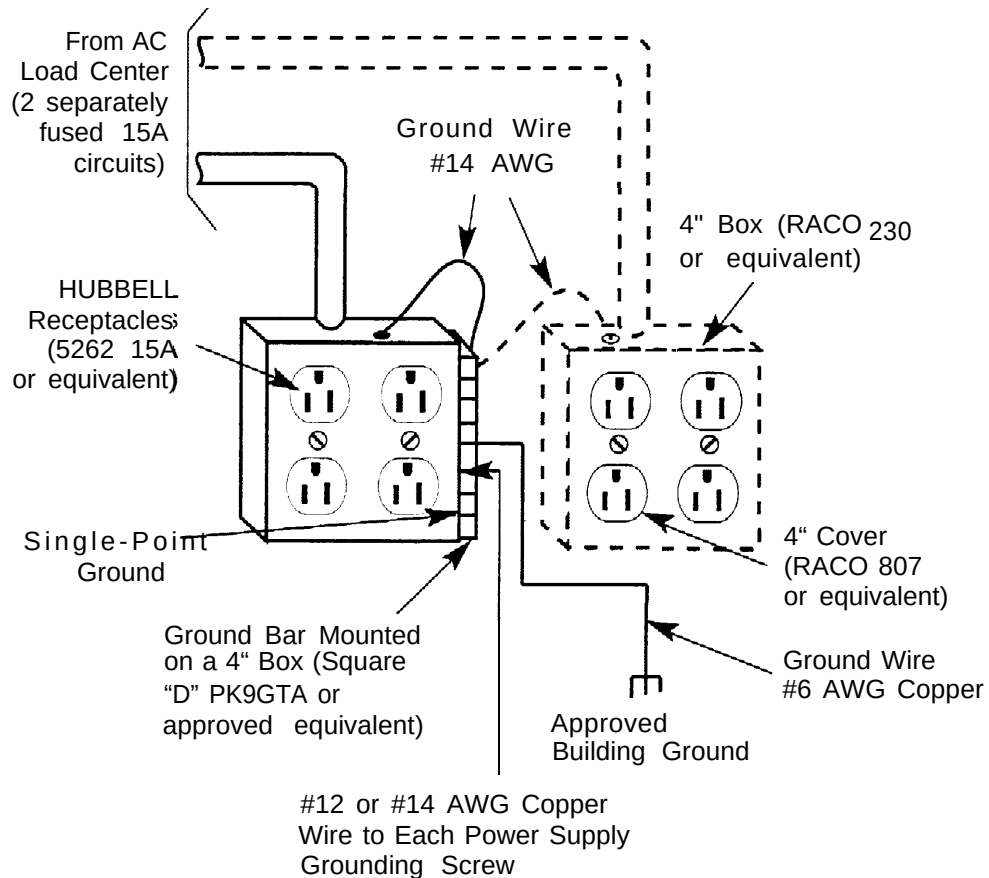
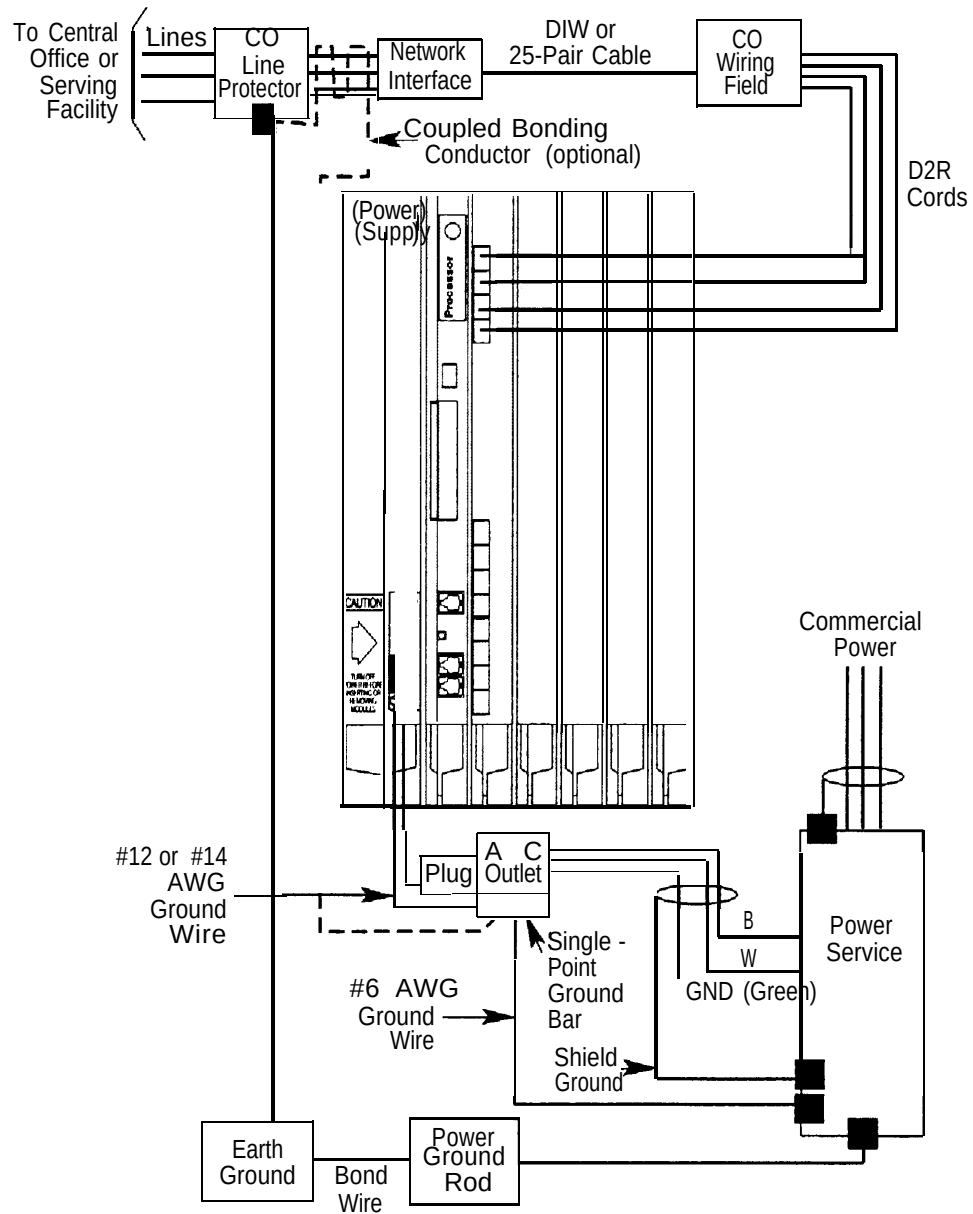

Figure 2-1. AC Grounding Requirements
Figure 2-3. Central Office and AC Grounds
- All AC outlets must connect to the same load center and the ground wire must connect to the single-point ground bar on the first AC outlet (see Figure 2-1).
- One outlet must have an attached ground bar connected by a #6 AWG copper wire to an approved ground (see page 2-12 for a description of approved grounds). This ground bar is the system's single-point ground (see Figure 2-1).
- Because equipment can be located throughout a building, the National Electrical Code requires that the ground point for the central office trunk protector be bonded to the AC power ground as shown in Figure 2-3.
- The AC outlet and the single-point ground bar must be properly grounded as shown in Figure 2-1 and Figure 2-3.